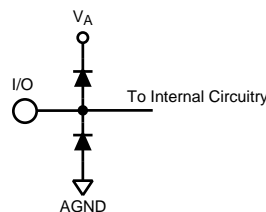

Figure 2.
- (1) The inputs are protected as shown below. Input voltage magnitudes above  $V_A$  or below GND will not damage this device, provided current is limited per Note 4. However, errors in the A/D conversion can occur if the input goes above 2.6V or below GND as described in the Operating Ratings section. See Figure 2.
- (2) With a full scale differential input of  $2V_{P-P}$ , the 12-bit LSB is  $488\ \mu\text{V}$ .
- (3) Typical figures are at  $T_A = 25^\circ\text{C}$  and represent most likely parametric norms at the time of product characterization. The typical specifications are not guaranteed.
- (4) The input capacitance is the sum of the package/pin capacitance and the sample and hold circuit capacitance.
- (2) With a full scale differential input of  $2V_{P-P}$ , the 12-bit LSB is  $488\text{ }\mu\text{V}$ .
- (4) This parameter is specified in units of dBFS - indicating the value that would be attained with a full-scale input signal.
- (2) With a full scale differential input of  $2V_{P-P}$ , the 12-bit LSB is 488  $\mu\text{V}$ .
- (4) This parameter is guaranteed by design and/or characterization and is not tested in production.